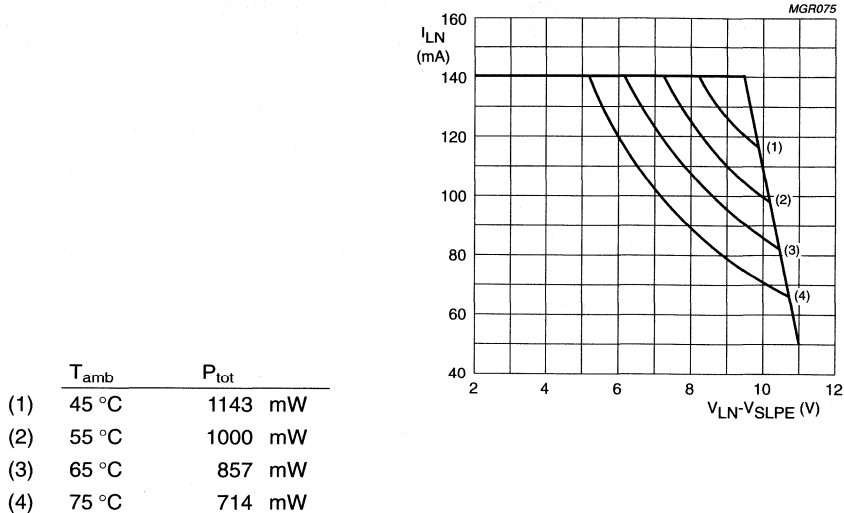

Fig.20 TEA1064A safe operating area.
- Mostly dependent on the maximum required T_{amb} and on the voltage between LN and SLPE. See Figs 20 and 21 to determine the current as a function of the required voltage and the temperature.